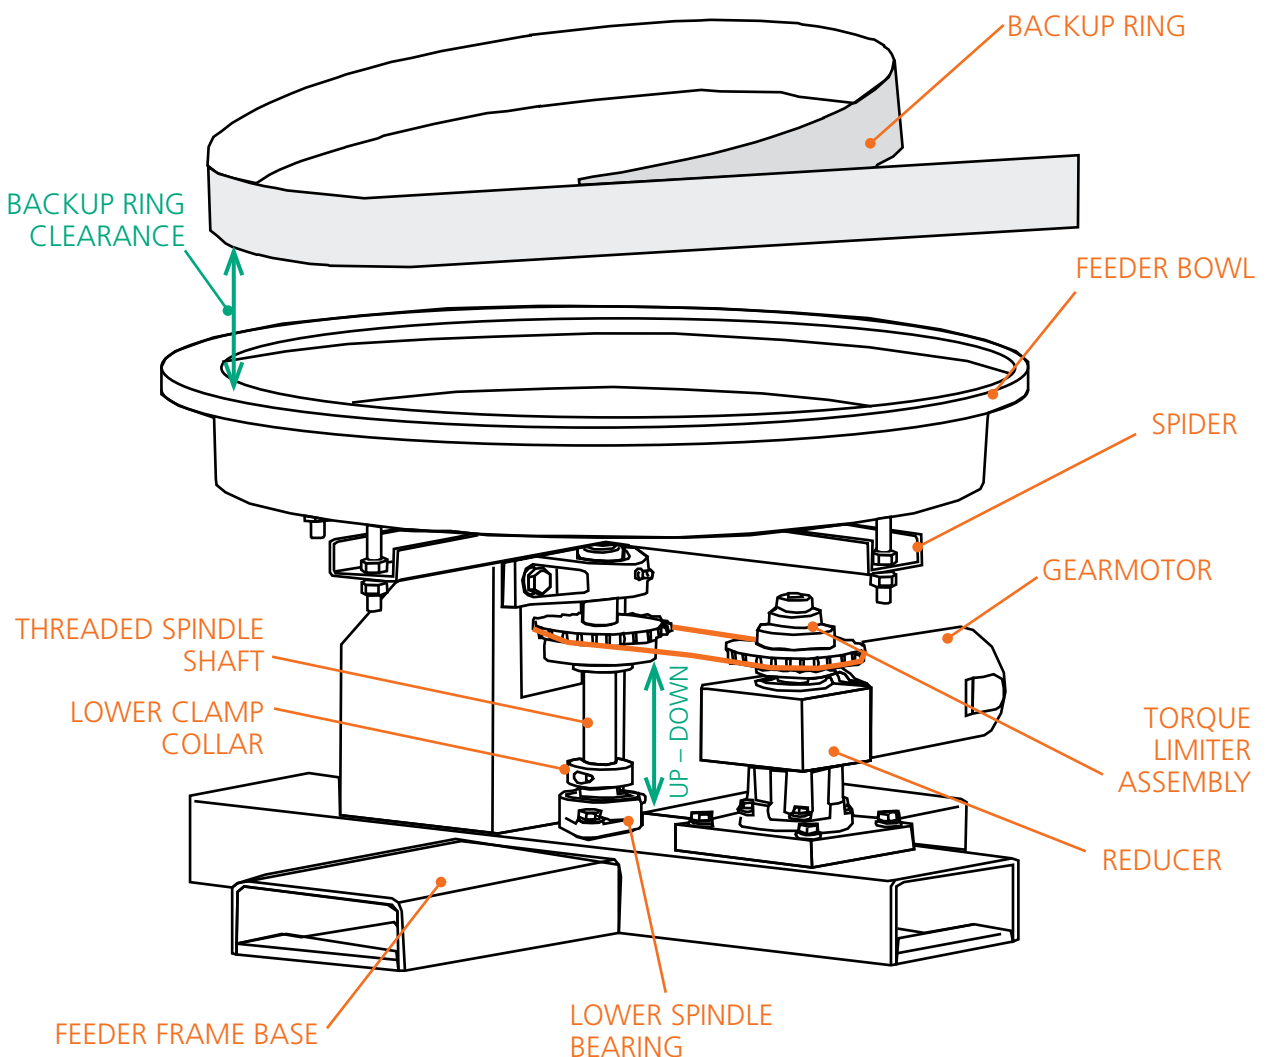

Figure 5-2. OLDER STYLE Backup Ring Clearance Adjustment
Step 4—Loosen Lockscrew. Loosen the lockscrew in the threaded clamp collar at the bottom of the spindle shaft. This is located directly above the lower spindle bearing (see Figure 5-2).